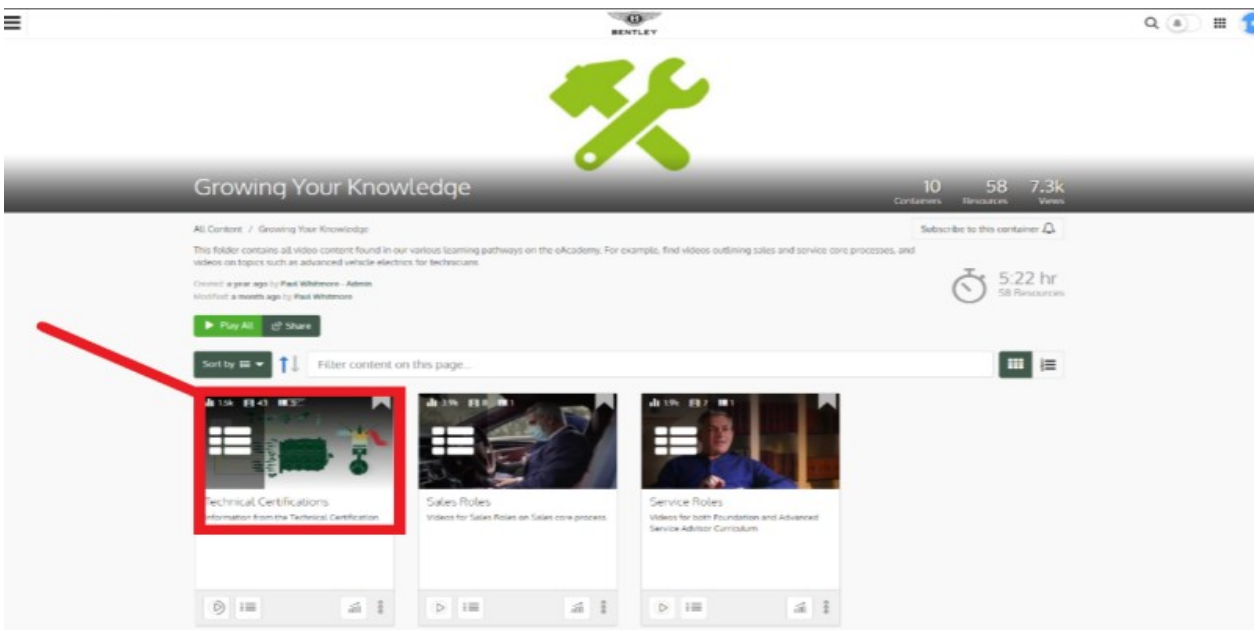

Figure 4
- Select - Technical Certifications (Figure 4)